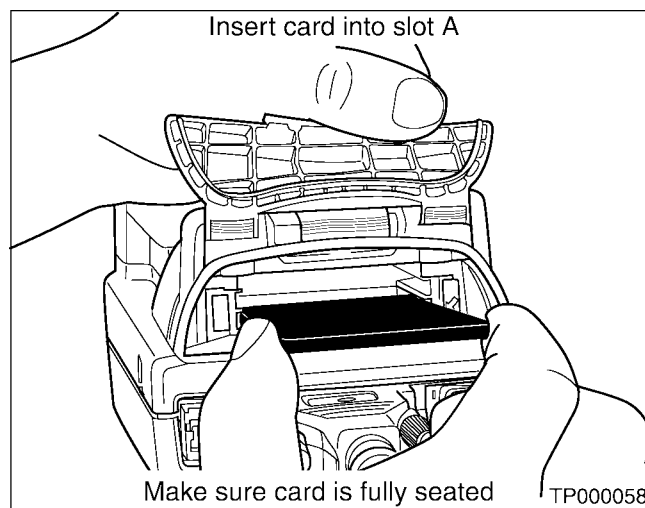

Figure 1
1. Install the NATS card (purple) into slot 1 of CONSULT-II (see Figure 1).